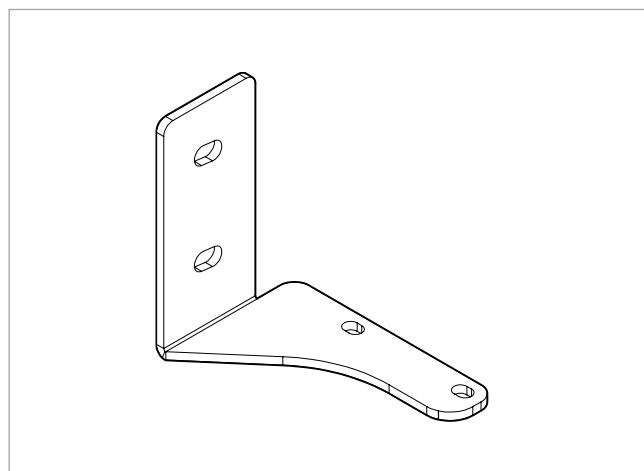

Figure 9.1
2. The side panel end bracket is shown below in Figure 9.1.